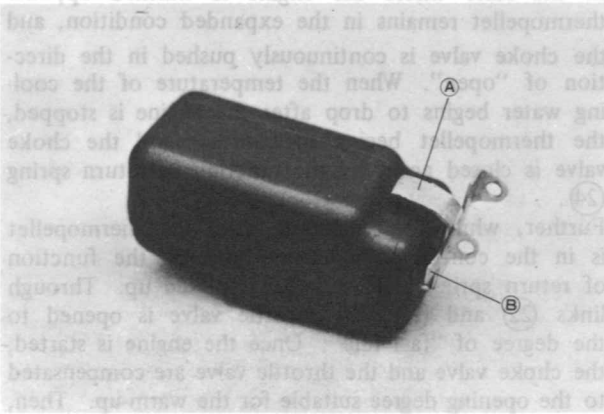

Fig. 4-9 Adjusting float
4. If the clearance is not within specification, adjust the clearance (H) by bending the float seat lip (A) shown in Fig. 4-9.
If the distance is not within specifications, adjust it by bending the float stopper (B) shown in Fig. 4-9.